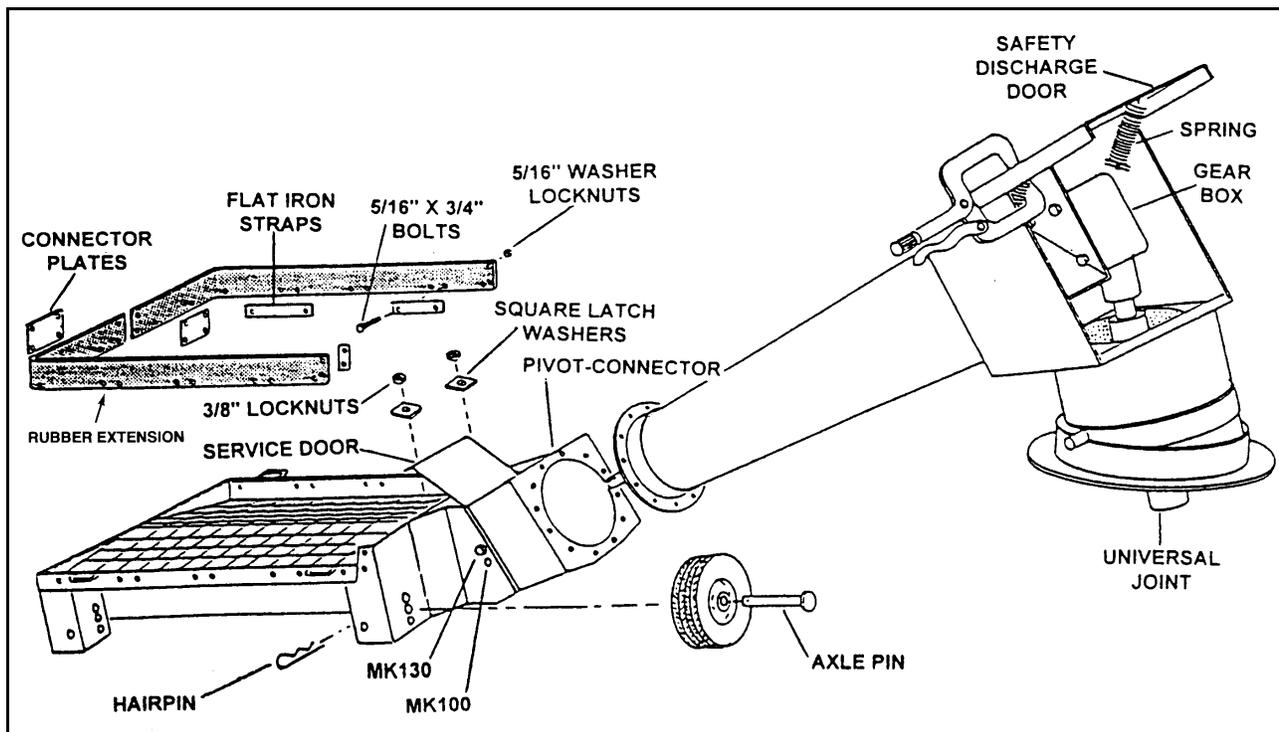

Figure 3.28
8. **MK130 Plus:** Install the 2-piece rubber extension on inside of hopper lip with twenty-eight 5/16" x 3/4" bolts and washer locknuts, and 10 long and 2 short flat iron straps, plus the 2-piece extension connector plates (Figure 3.28).